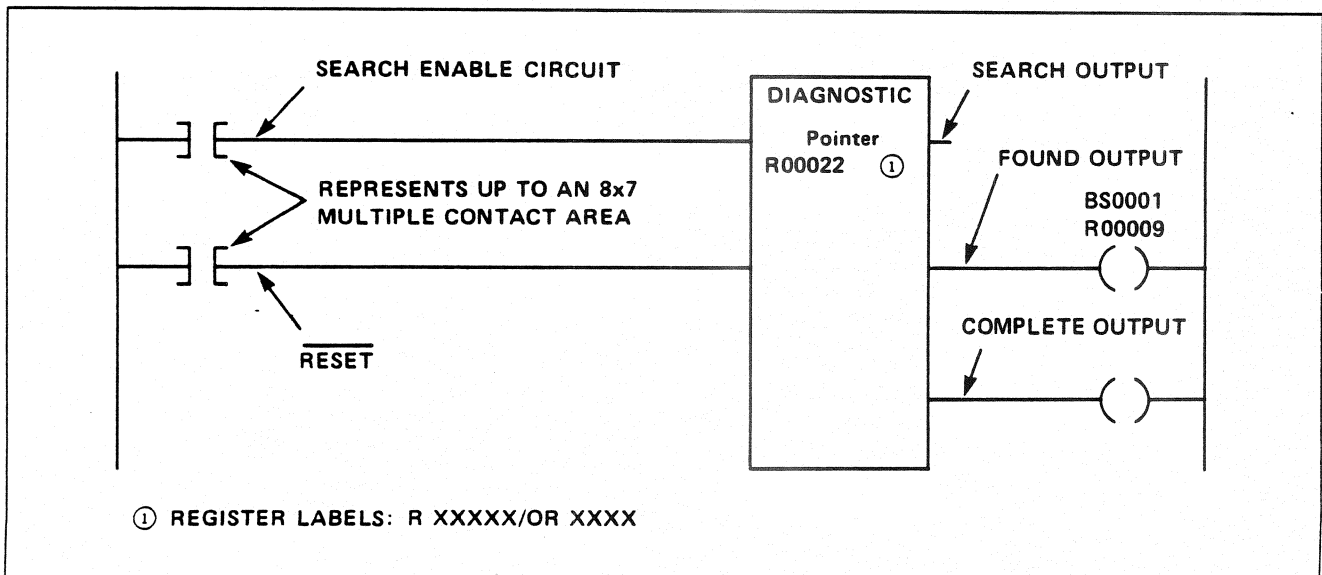

Figure DIAG-1. Diagnostic Function Circuit (Typical)
The Diagnostic programmable function searches through the nonfatal fault registers of the processor. If a fault is found, a related bit number, referred to as a specific fault bit, is stored in the Pointer Register, and the found output of the function block conducts. The nonfatal faults are arbitrarily assigned a number by the Diagnostic function. This fault bit number as shown in Table DIAG-1 is stored in the Pointer Register in the event of a fault. See Figure DIAG-1 and observe the following 3 points:
The Diagnostic function can be used to activate or illuminate an external alarm, annunciator, etc. when a nonfatal fault occurs. In Figure DIAG-1, for example, the found output energizes a BS/R coil (001) when a nonfatal fault occurs. This coil could be wired to an alarm to signal personnel. Also, the contacts from this coil in this example can also be used in the ladder diagram to initiate special measures such as energizing or de-energizing outputs, or resetting timers or counters. A reset BC/R coil (002; not shown) would be necessary to clear the bit after corrective action has been taken.